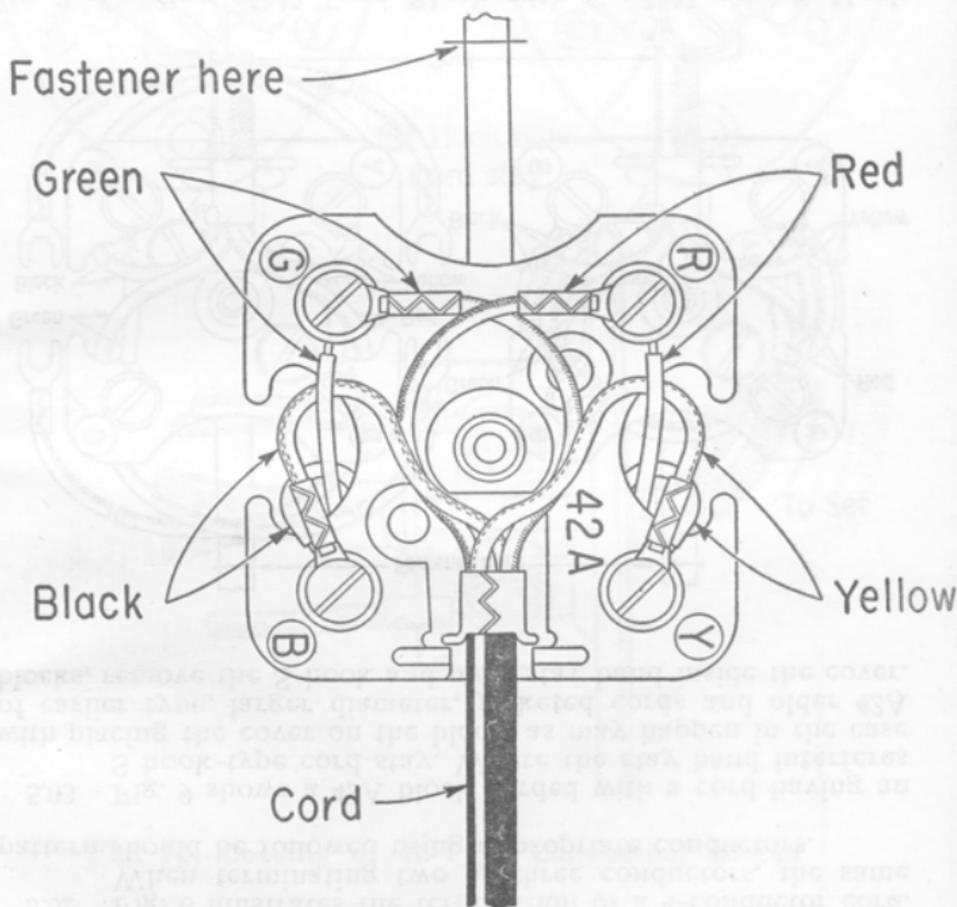

Fig. 8—Terminating 4-Conductor Cord on a 42-Type Block
4.10 Fig. 7 shows a 42A connecting block mounted on a 37A bracket and placed in a conduit outlet box. Mount the 42A block on the 37A bracket. (The 37A brackets are available from recoveries only.) Leave 6 to 8 inches slack wire to be stored in the outlet box. Cord the block in the same manner shown in Figs. 8 to 10 for other locations. This arrangement should only be used in outlet boxes 2-1/2 or more inches in depth. For shallower boxes, use 47B block and 43A bracket shown in Fig. 6.
5.02 Fig. 8 illustrates the termination of a 4-conductor cord. When terminating two or three conductors, the same pattern should be followed using appropriate conductors.